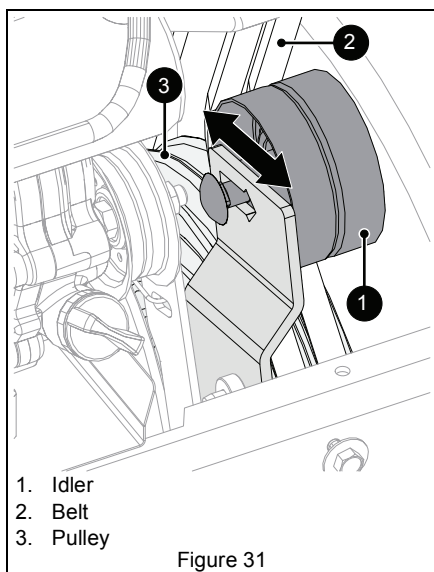

Figure 31
See Figure 31.
- If there is less than 1.6 mm (1/16") gap, loosen idler adjustment nut and move idler away from belt or pulley. Position idler to achieve a 1.6 mm (1/16") minimum brake pad gap and a 12.7 mm – 22.2 mm (1/2" – 7/8") gap between the plastic roller and the frame. See Figure 31.